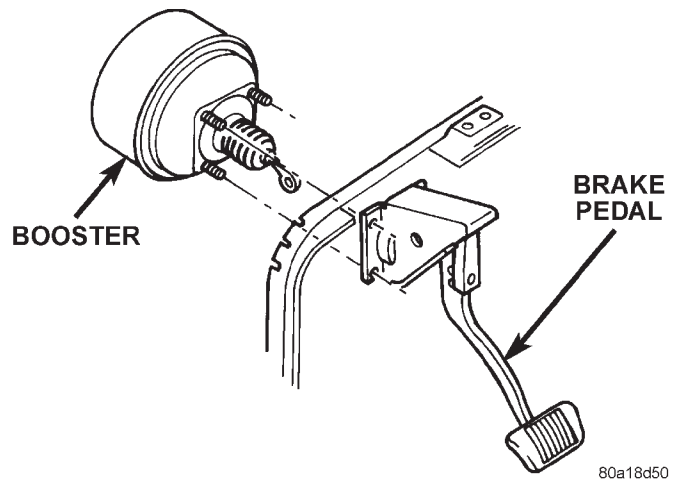

Fig. 22 Booster Mounting Nuts
- (4) Remove four nuts attaching booster to front cowl panel (Fig. 22).
- (5) In engine compartment, slide booster studs out of cowl panel, and remove the booster from engine compartment.
- (6) Remove dash seal from booster.